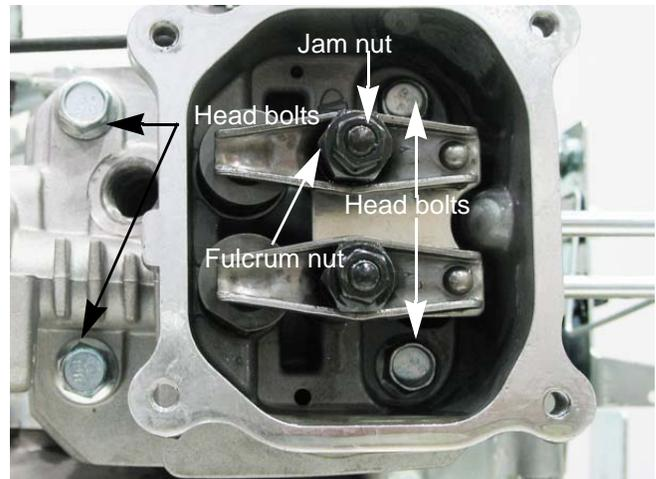

Figure 9.3
5. Loosen the jam nuts and fulcrum nuts that secure the rocker arms using a 10mm wrench and a 14mm wrench. See Figure 9.3.